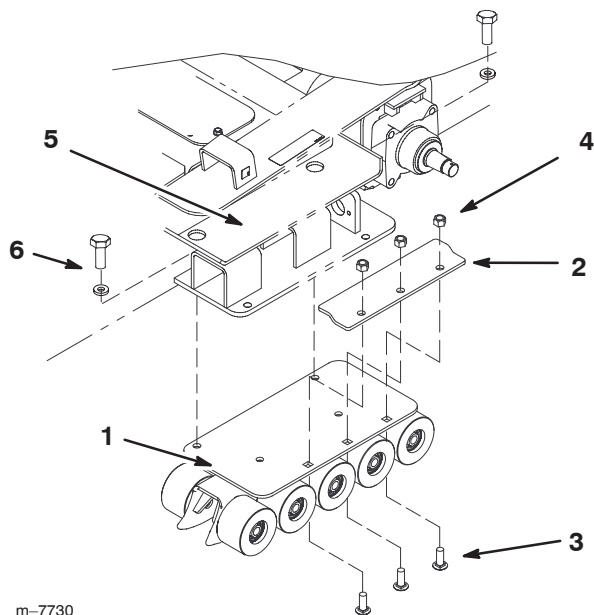

Figure 1
4. Remove the existing track guide from the frame by removing the three carriage bolts and lock nuts securing the guide and clamp plate to the frame (Fig. 1). Discard the clamp plate.